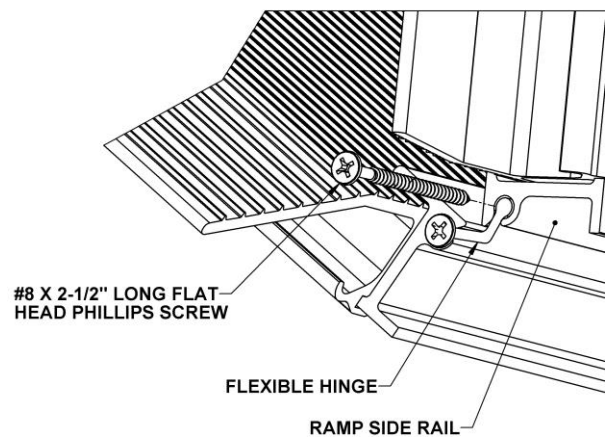

FIG. 5
- Remove the #8 x 2-1/2" long flat head Phillips screws in both ends of the ramp side rail on one half of the ramp and slide ramp half off the flexible hinge (FIG. 5).
- To reassemble, slide the disconnected half of the ramp back onto the flexible hinge (use soapy water to lubricate if needed). Then reinstall the two #8 x 2-1/2" long flat head Phillips screws into the gap between the flexible hinge and the hinge channel in the ramp side rail (FIG. 5).